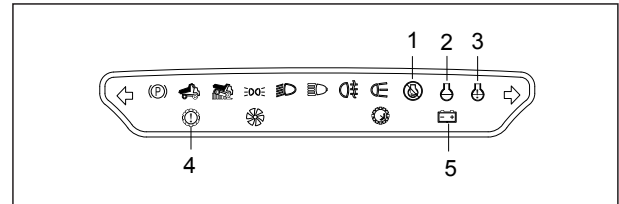

Fig 4.16
5. Check the instrument panel; the engine “maintenance”, “warning”, and “stop” indicators shall flash for several seconds and then extinguish; the “Alternator Charging” and “transmission fault” indicators shall be constantly on; the Power View display instrument does not indicate warning (see Fig4-16).